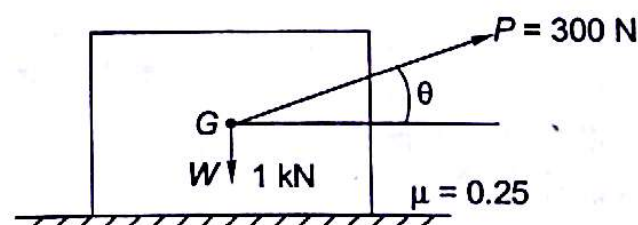

Fig. 6.23
- 6.5 A block weighing 1000 N rests on a horizontal plane as shown in Fig. 6.23. The coefficient of static friction between block and plane is 0.25. Over what range of angle θ , there will be no movement of the block if a force of 300 N acts on the block as shown.